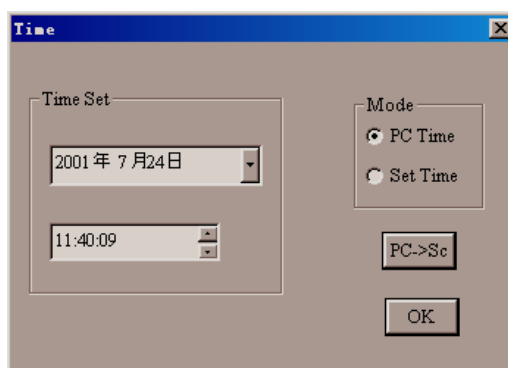

Fig. 5-1
- ☞ Here will show setup time dialog box as fig. 5-1.